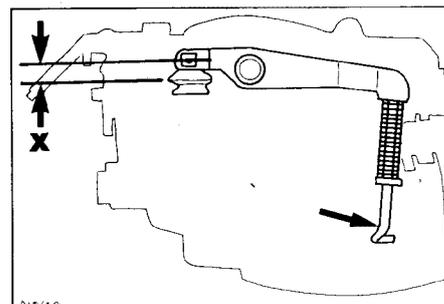

Fig. 9 Accelerator pump
- a) Measure accelerator pump lever stroke (X, Fig. 9) at inner end through full movement.